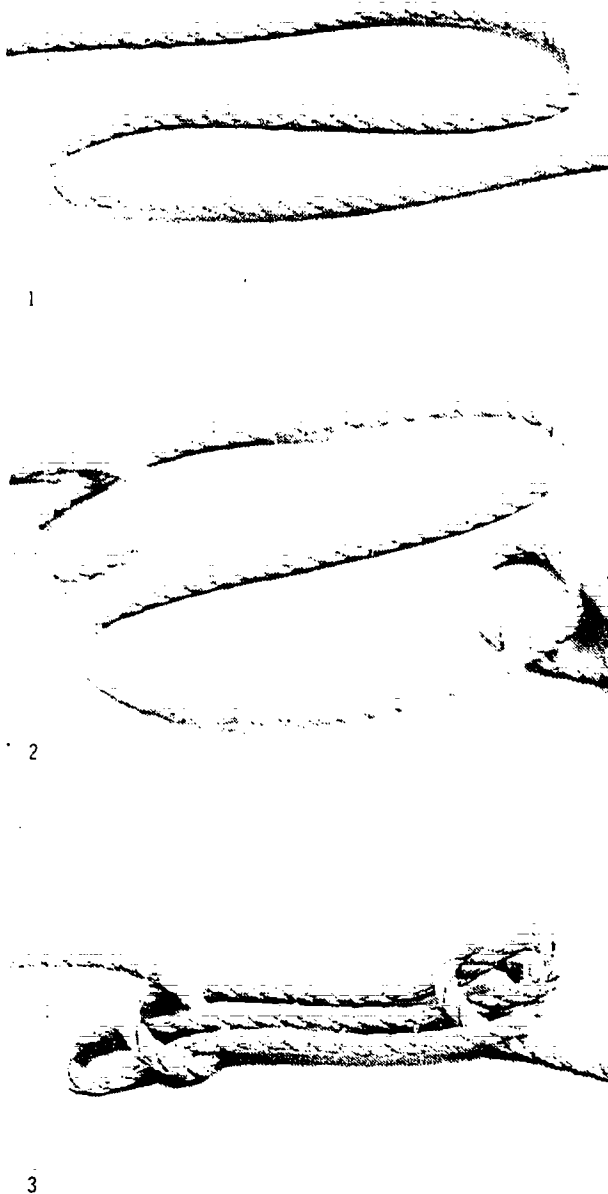

Figure 7-22. Tying a Sheepshank
5. A **sheepshank** is used to shorten a rope as a temporary measure. This may be necessary to take the load off a weak or damaged part of the line before replacement can be accomplished. Figure 7-22 illustrates the steps in tying the sheepshank.